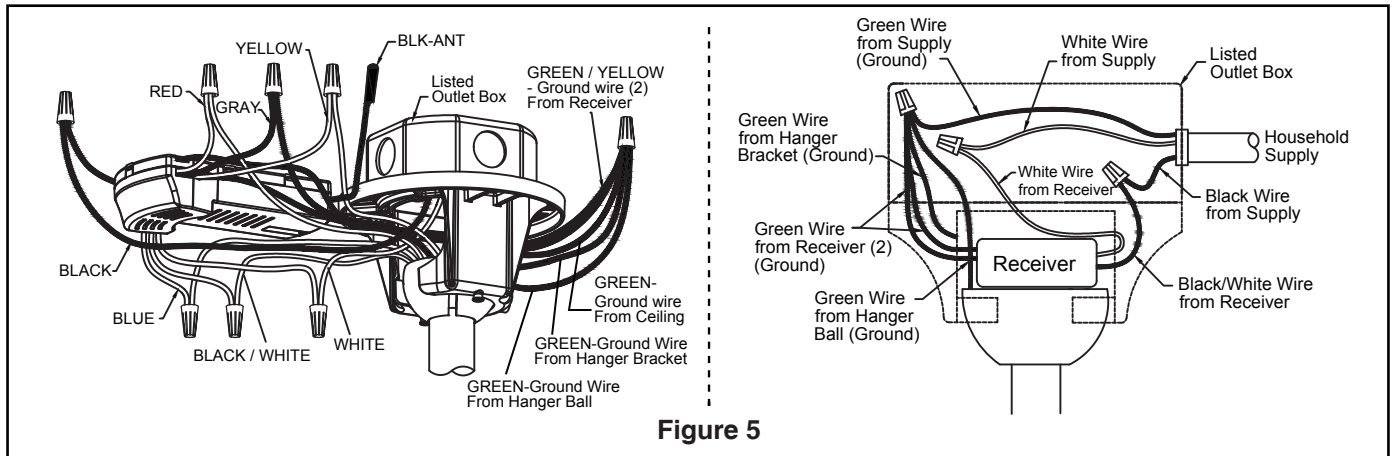

Figure 5
5. Route wires and safety cable through motor coupling cover, canopy screw cover and ceiling canopy. (Figure 5)
4. After connections have been made, put the white and green leads to one side and the black/white leads towards the other side, upward and carefully push leads into the outlet box. The wires should be spread apart with the grounded conductor and the equipment-grounding conductor on one side of the outlet box and the ungrounded conductor on the other side. (Figure 5)
5. Assemble the light kit wire cover to the light plate assembly using the two key slots in the light kit wire cover. Replace the previously removed screw and securely tighten all three screws. (Figure 5)
5. To set the remote code with a small screwdriver or ball point pen (neither included), slide dip switches firmly up or down. (Figure 5)